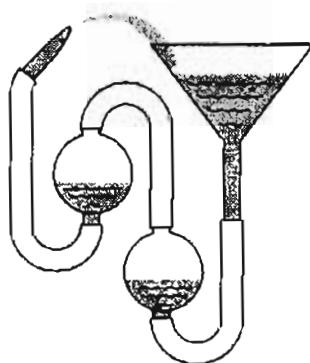

Figure 27.1TP1
1. Look at Figure 27.1TP1. This apparatus appeared in a magazine with the statement that once the funnel was filled, it ran continuously for 12 hours before stopping. Do you believe it?